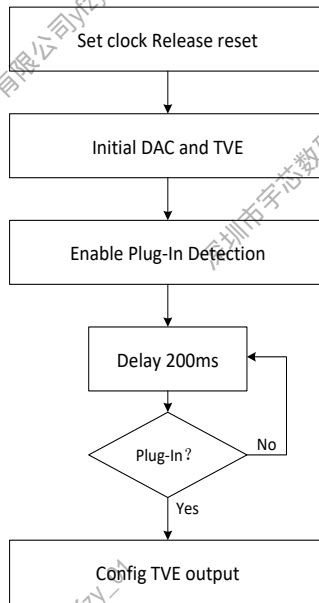

Figure 7-18. Operate TVE Process
(1) Operate TVE module by below step, the process is shown in Figure 7-18.